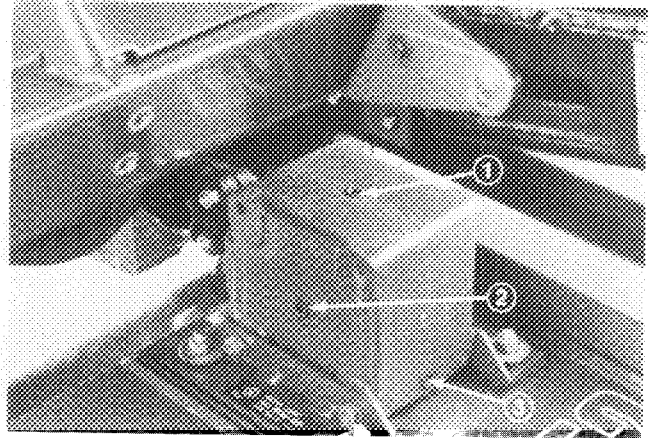

Figure 15
2. Remove check plug from side of gear box (Fig. 15) and make sure lubricant is up to bottom of hole. If level of lubricant is low, remove fill plug on top of gear case and add enough lubricant to bring it up to bottom of hole in side.